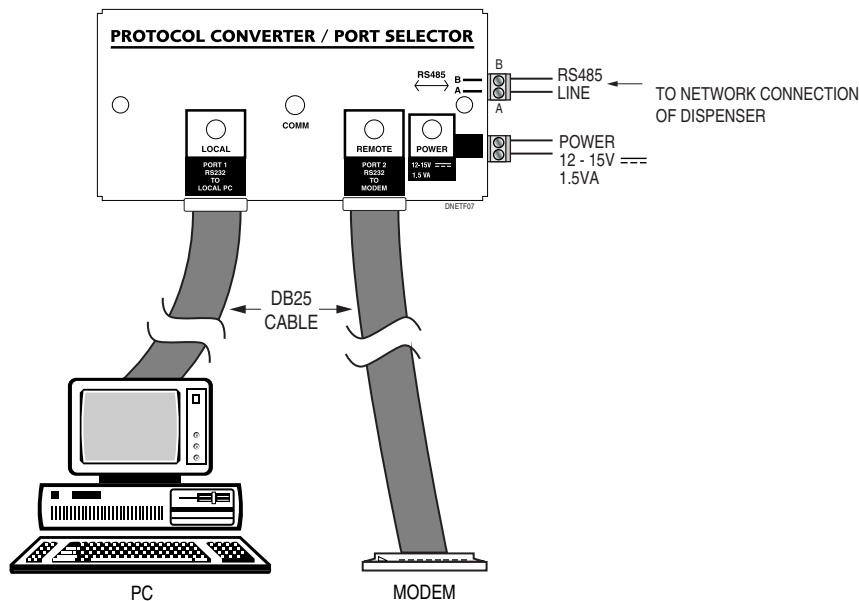

Figure 7. Network to Local PC Connection Using Modem and Protocol Converter/Port Selector
1. See Figure 7. Run 2-conductor cable from the dispenser network to the Protocol Converter/Port Selector.
2. Refer to **Figure 7** and connect the male DB-25 remote output of the Protocol Converter/Port Selector to a US Robotics modem (Classic, Classic V or Sportster model). Use a 25- to 25-pin RS-232 serial cable to make this connection.